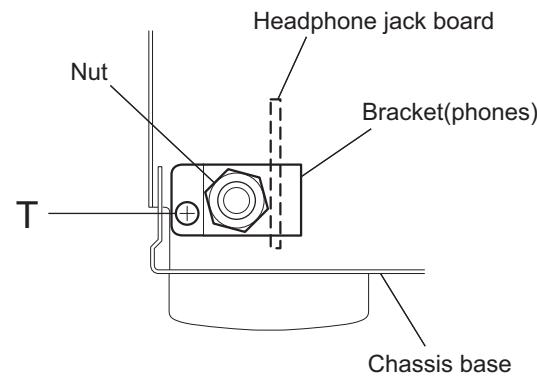

Fig.17
- (2) From the front side of the main body, remove the nut and screw **T** attaching the Bracket(phones) to the chassis base. (See Fig.17)